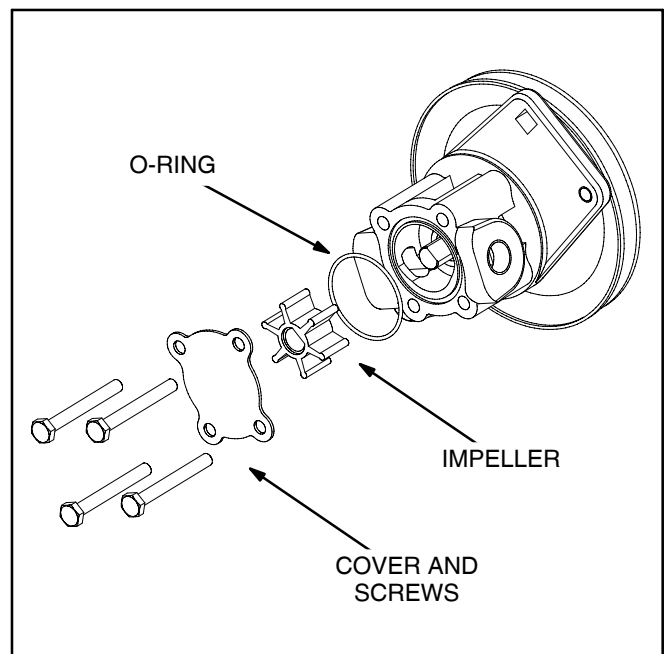

FIGURE 3-10. REPLACING THE IMPELLER
5. Remove the 4 pump cover screws (Figure 3-10) and remove the impeller and O-ring. Use two pliers to grip vanes on opposite sides if the impeller is difficult to remove. *It will be necessary to check for and cleanout pieces of the impeller from the heat exchanger and exhaust elbow if vanes have broken off.*